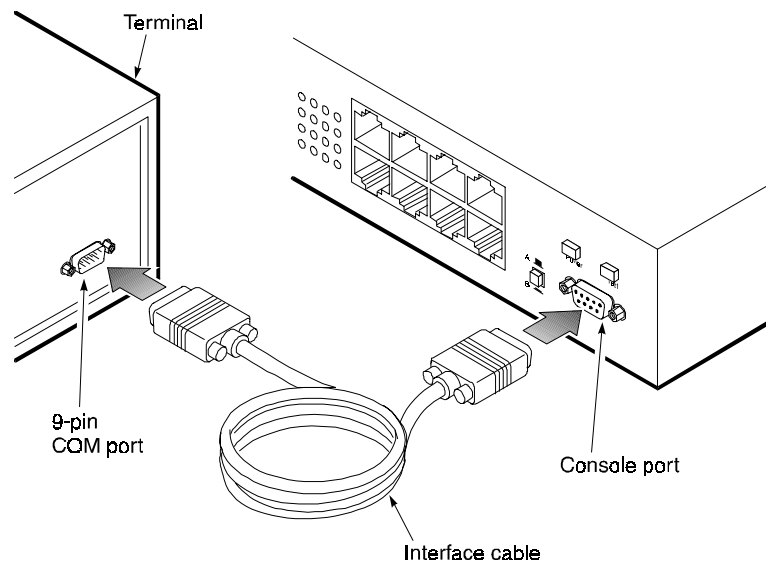

Figure 2-3. Connecting a Terminal to the Console Port
1. Connect a terminal to the console port using an interface cable (Figure 2-3).